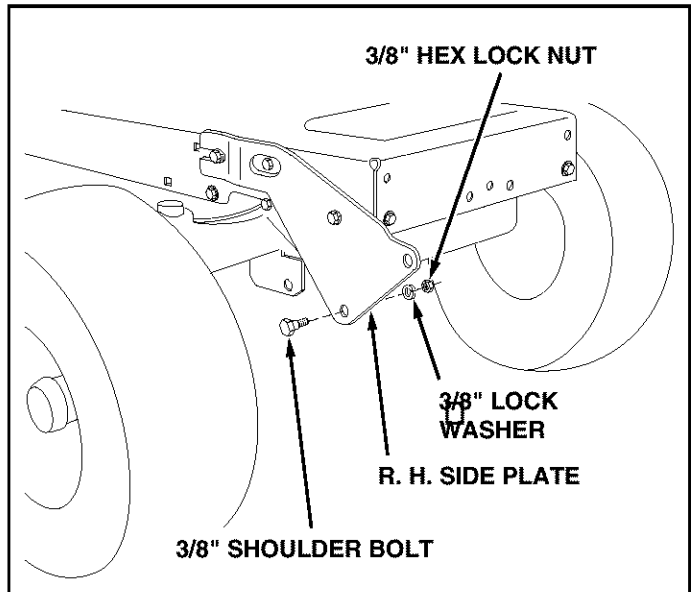

FIGURE 6 RIGHT SIDE VIEW
- Assemble a shoulder bolt, a 3/8" lock washer and a 3/8" hex lock nut to the bottom hole in each side plate. See figure 6.